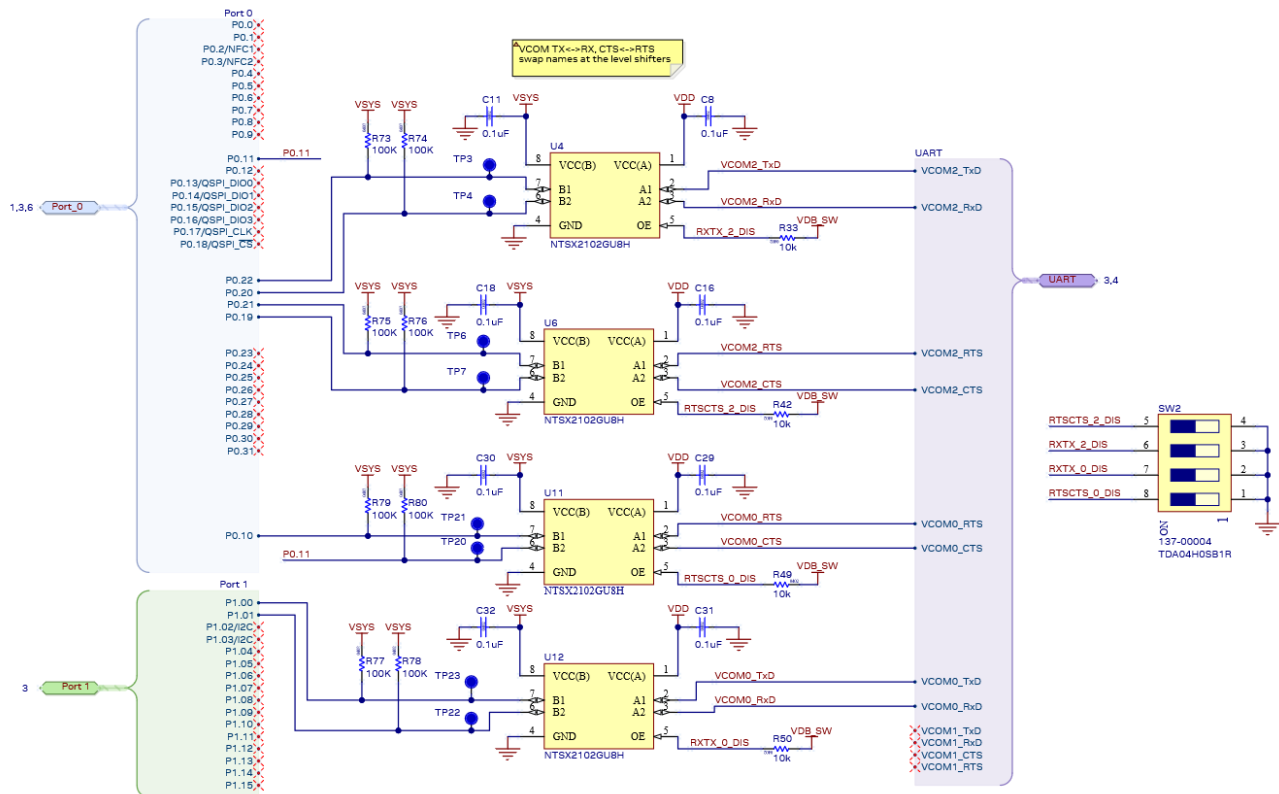

Figure 6: UART level shifters and disable switches
- Figure 6 reflects Rev D and Rev E hardware versions.